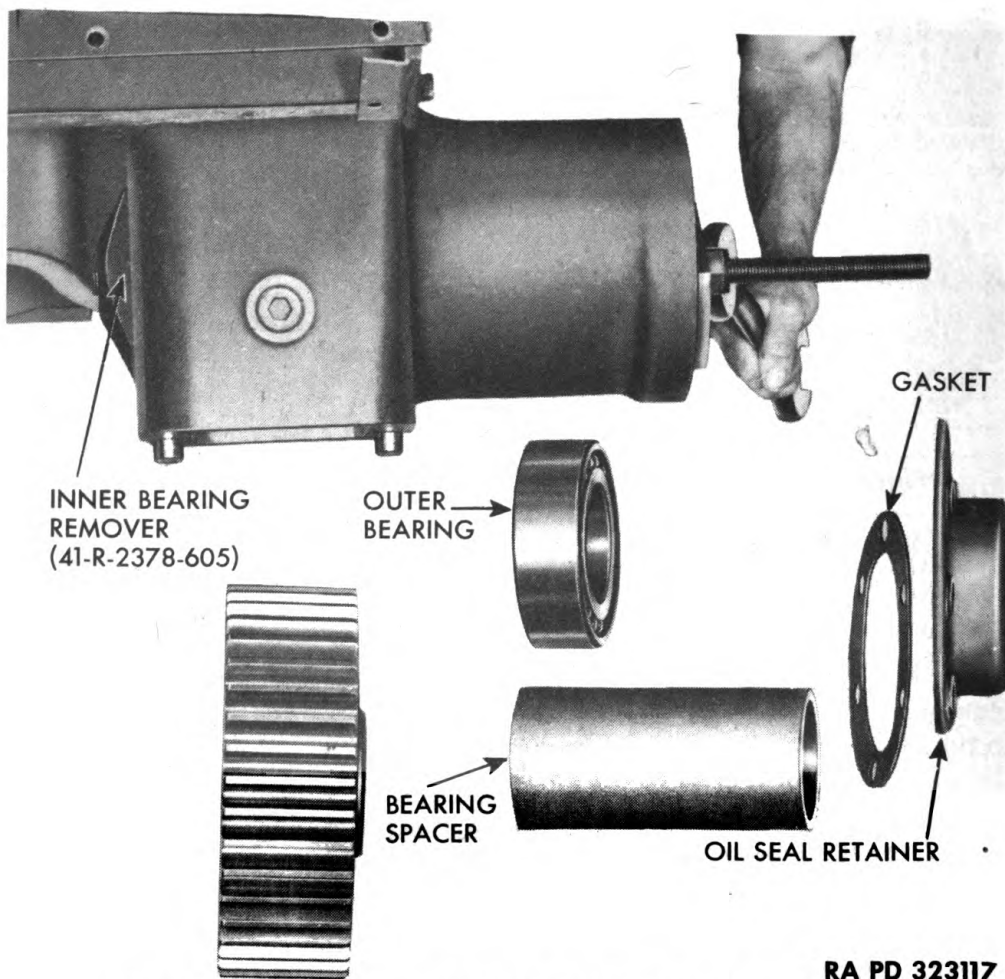

Figure 118 — Removing Final Drive Shaft Inner Bearing
h. Remove Outer and Inner Final Drive Shaft Bearings (fig. 118). Remove six cap screws and lock washers attaching final drive shaft oil seal retainer. Remove oil seal retainer and gasket. Pry against